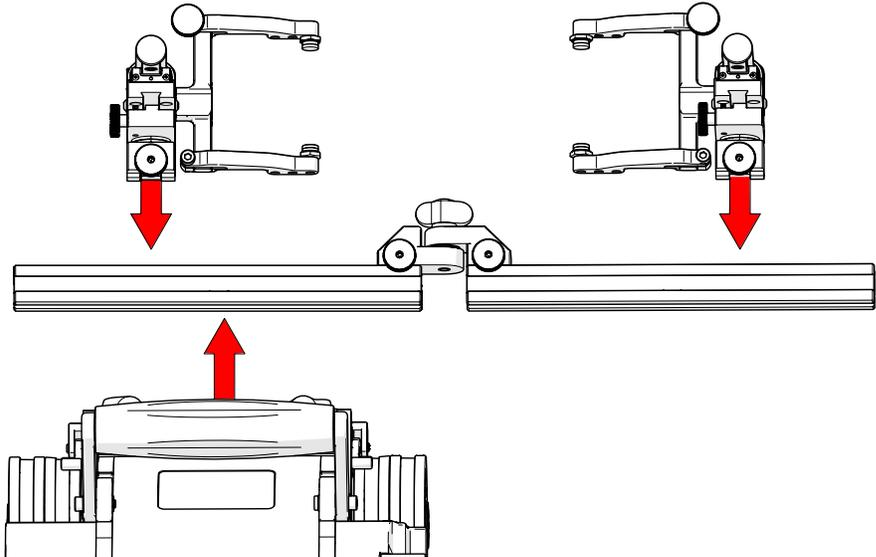

Fig. 189 - Configure assembly and mount to SK00T
1. Disassemble the pivoting probe holder frame to achieve the setup shown (Fig. 189). Ensure proper placement of the frame bar with attached mounting point in relation to the **SK00T**.